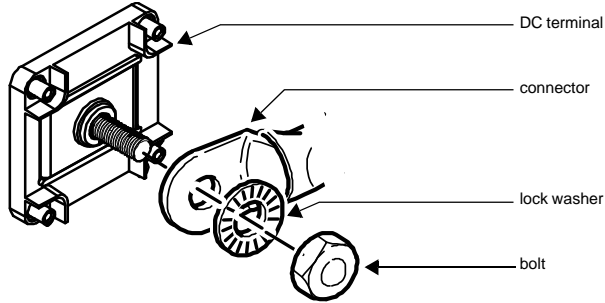

Figure 7 DC Cable Connections
Use only appropriately sized copper cable. Loose connections, improper connections, and under-rated cables will overheat. Make sure that the supplied bolts on the inverter/charger are tightened to a torque of 20.4–21.7 Nm. Torque all other connections to the manufacturer's specifications. Make sure the DC cable, washers, and bolt are assembled in the order shown in Figure 7.
4. Connect one connector on the POSITIVE (+) cable to the POSITIVE DC terminal on the inverter/charger, as shown in Figure 7. The connector goes on first, then the lock washer and bolt.
6. Connect one connector on the NEGATIVE (-) cable to the NEGATIVE (-) DC terminal on the inverter/charger, as shown in Figure 7. The connector goes on first, then the lock washer and bolt.